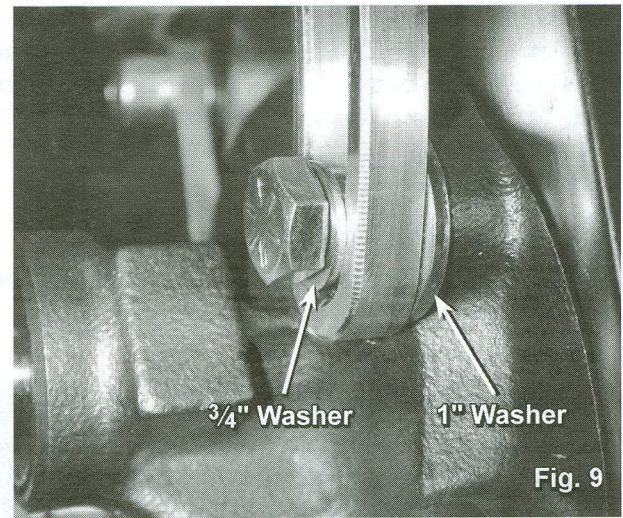

Fig. 9
6. Once proper pump to upper bracket spacing has been achieved secure the pump to the upper mounting bracket using one (1) $\frac{3}{4}$ " x $\frac{3}{8}$ "-16 hex head head bolt with a $\frac{3}{4}$ " washer in front of the upper bracket and a 1" washer between the power steering pump and the upper bracket (fig. 9). All other mounting bolts may be tighten at this time.